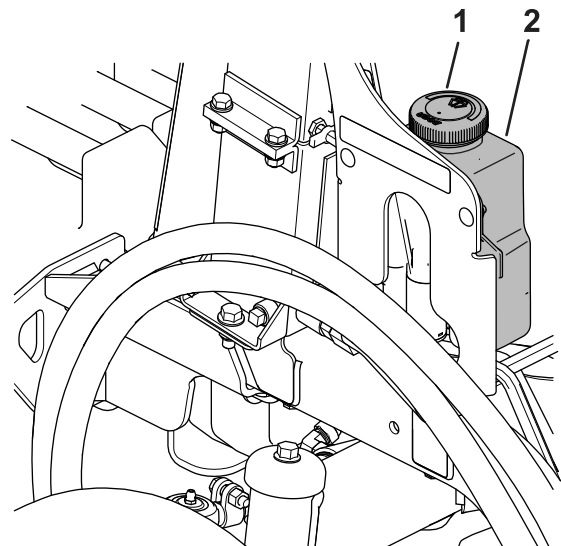

Figure 92
1. Remove the cap (Figure 92) on the reservoir.